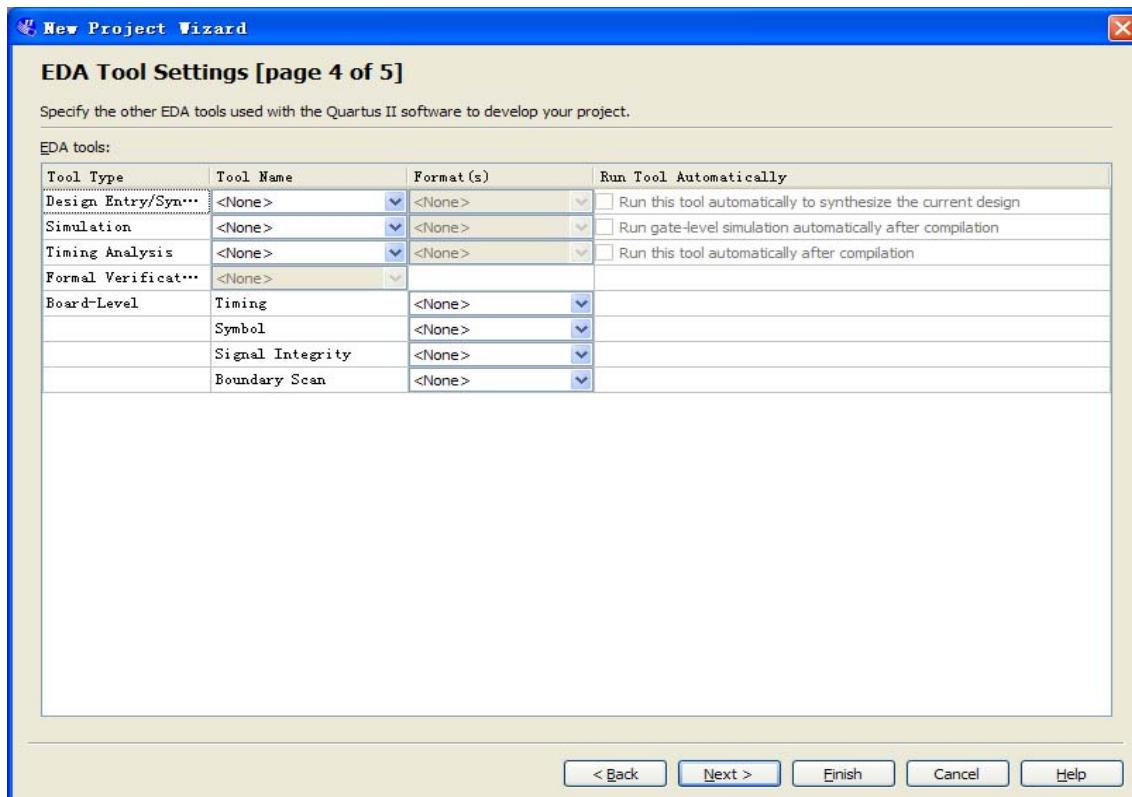

Figure 7-6 New Project Wizard: EDA Tool Settings [page 4 of 5]
3. Click **Next** to skip in **Add Files** window. In the **Family & Device Settings** window, we will choose device family and device settings appropriate for the DE0-Nano board. You should choose settings the same, as shown in Figure 7-5. Then click **Next** to get to the window as shown in Figure 7-6.